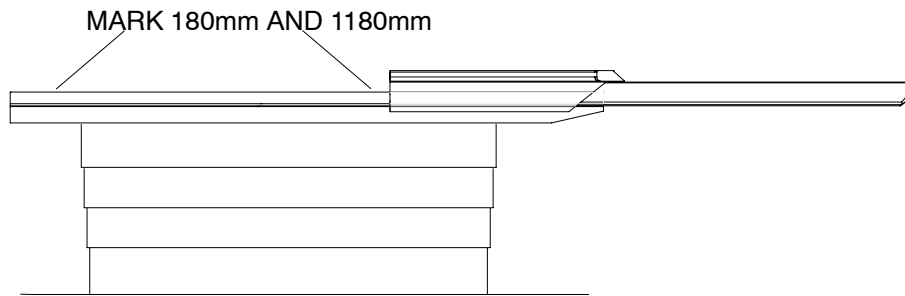

FIGURE 6 180mm and 1180mm COUCH MARKINGS
7. Press **1** to continue. Push the couch toward the scan frame and mark two positions from the back seam of the patient support with a pencil: 180mm and 1180mm. Refer to Figure 6.